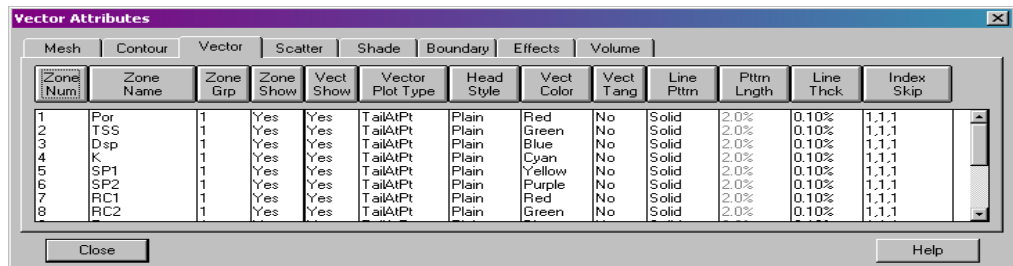

Figure 12-3. The Vector Attributes dialog.
You can modify your vector plot attributes using either the Vector Attributes dialog or the Quick Edit dialog. You can control any of the following attributes from the Vector Attributes dialog (Figure 12-3):
1. Choose Vector Attributes from the Vector sub-menu of the Field menu. The Vector Attributes dialog appears as shown in Figure 12-3.